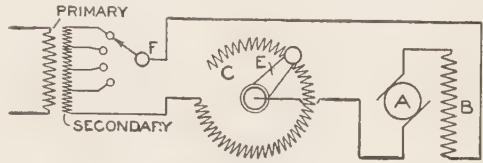

FIG. 2
F., as shown in Fig. 2. The switch gives a means of varying the voltage and the rheostat takes care of the desired changes in speed occurring between those produced by the variations in voltage.